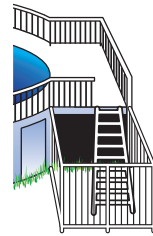

Figure 8c
- (b) **the ladder or steps should be surrounded by a barrier** (figure 8c). When the ladder or steps are secured, locked, or removed, any opening created should not allow the passage of a 4-inch diameter sphere.